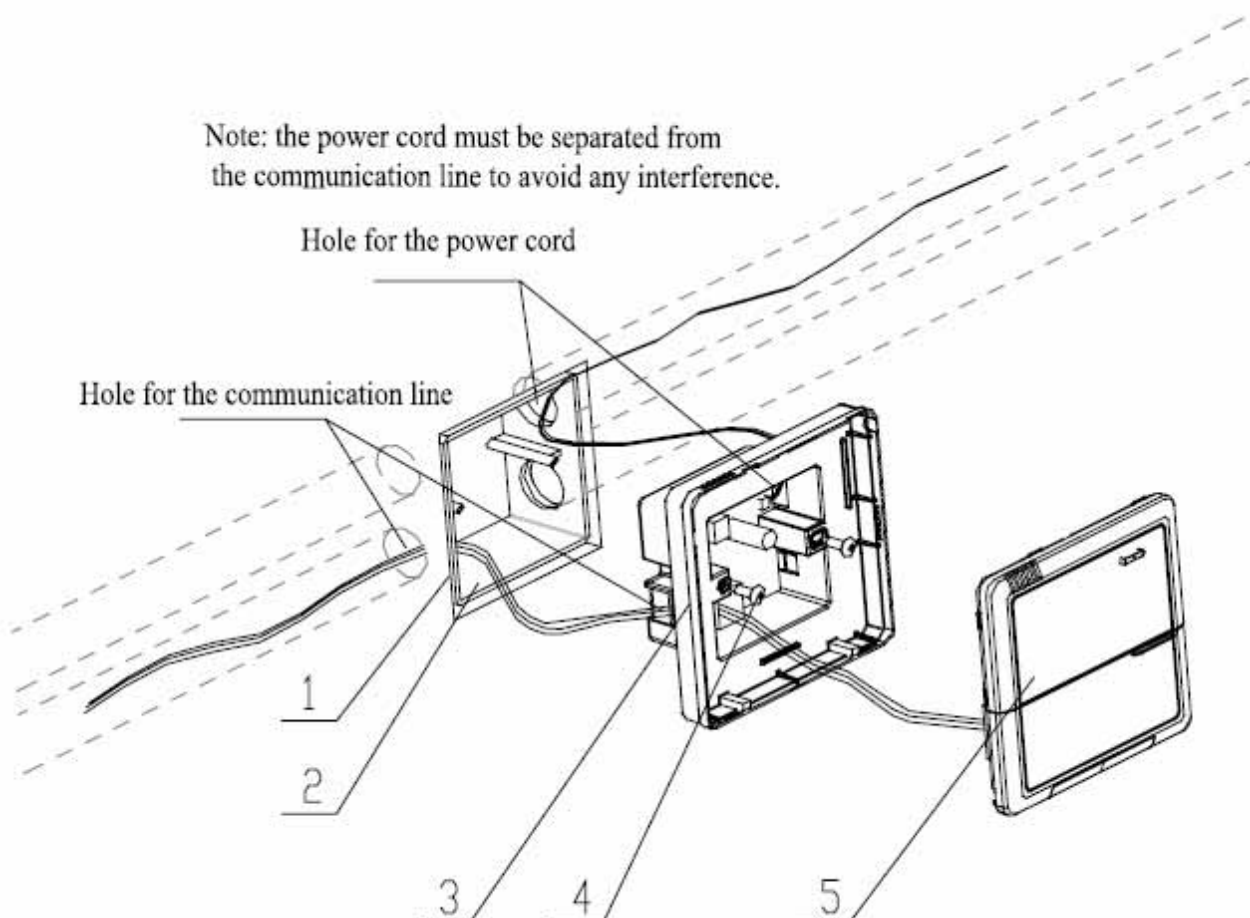

Fig. 5.5.6 Installation Diagram
b. Embed the power supply box (2) as Fig.5.5.6 for the installation of the bottom case (3).
c. Connect the power cord and the communication line of the display board and then let both go through the power supply box (2).
d. Fix the bottom case on the power box (2) by screws.
f. Close the cover (5)